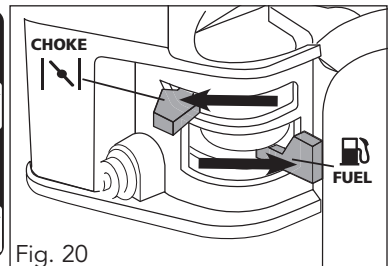

Fig. 20
- 2. Fuel** - Move the fuel lever right, ON (open) position (fig. 20).
- 3. Choke** - Move the choke lever to the left, choke (closed) START position (fig. 20).